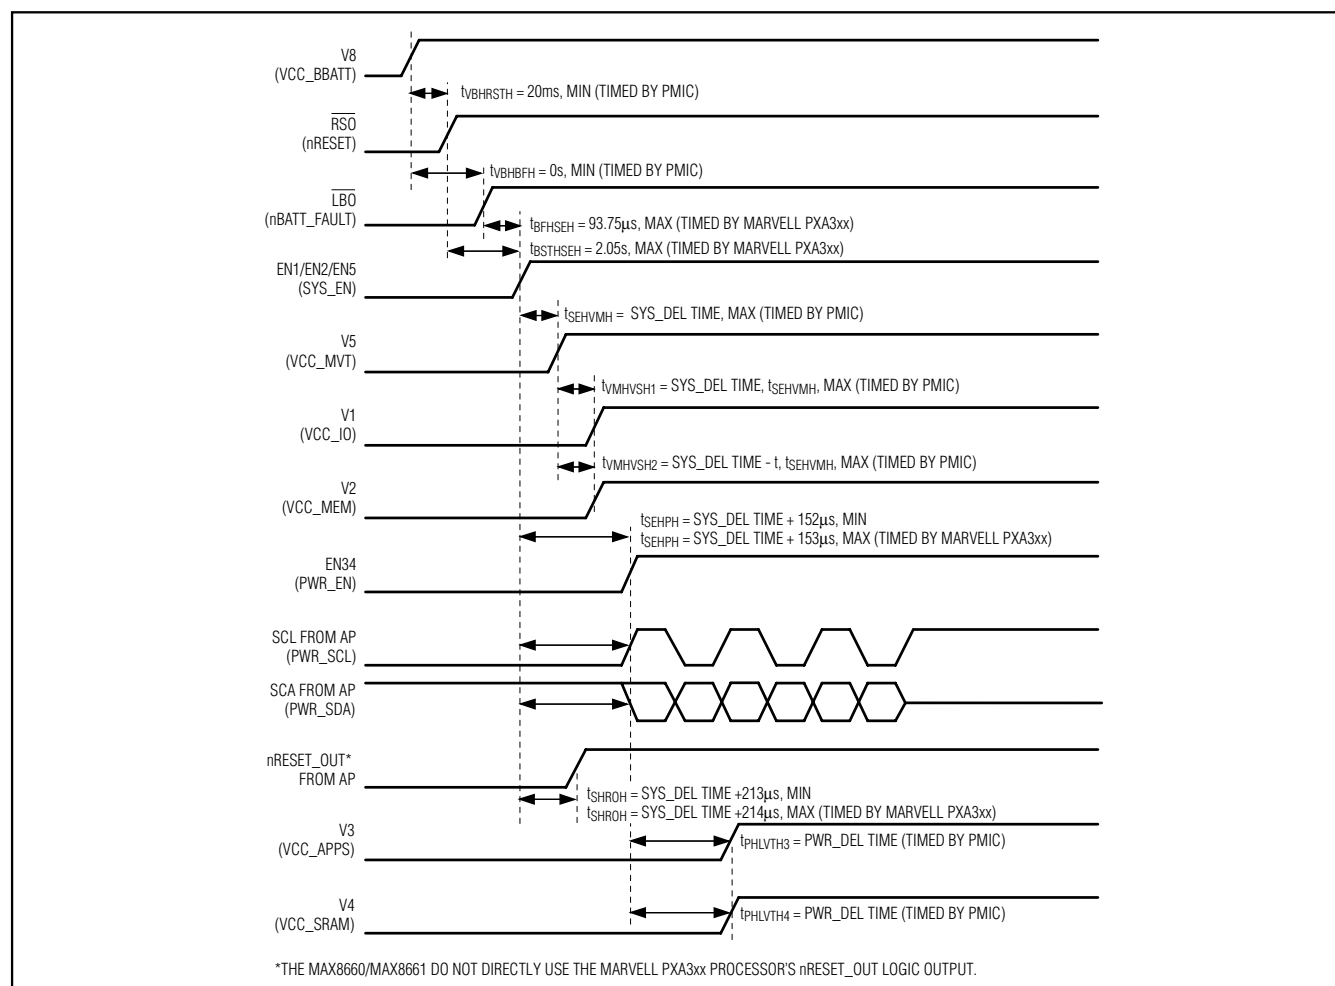

Figure 6. Power-Up Timing
Figure 6 shows the power-up sequence for the Marvell PXA3xx family of processors. In general, the supplies should power up in the following order:
- The PCFR register contains timers for the SYS_DEL and PWR_DEL timing parameters as shown in Figure 6. Each timer defaults to 125ms. When using the MAX8660/MAX8661, these timers may be shortened to 2ms to speed up the overall system wake-up delay.